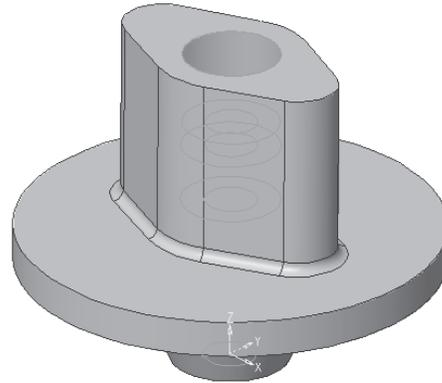

Figure 3-71 Third feature added
6. Choose the **Set Target** button and select the base feature. Choose the **OK** button. The third feature is created and displayed, as shown in Figure 3-71.